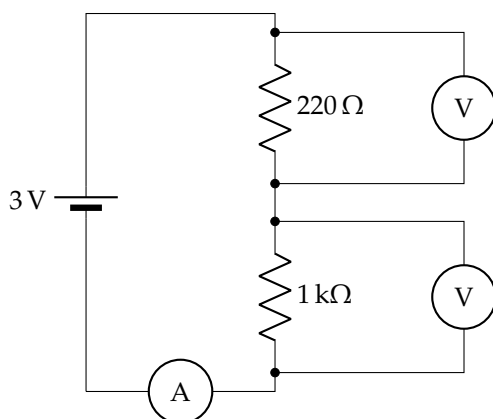

Figure 7: The circuit used to study a voltage divider.
Set up the circuit shown in Fig. 7, using a $220\ \Omega$ in series with a $1\ \text{k}\Omega$ resistor. You will also need to connect the ammeter in series between the resistors and the power supply ground. If you are still using the ammeter’s high-current port from your measurements of the I - V curve of the light bulb, switch your leads to use the low-current port. You will measure voltages across each of the two resistors using a voltmeter.
1. Set up your circuit as shown in Fig. 7. Use the resistor color codes in Table 1 to choose a $220\ \Omega$ resistor and a $1\ \text{k}\Omega$ resistor.